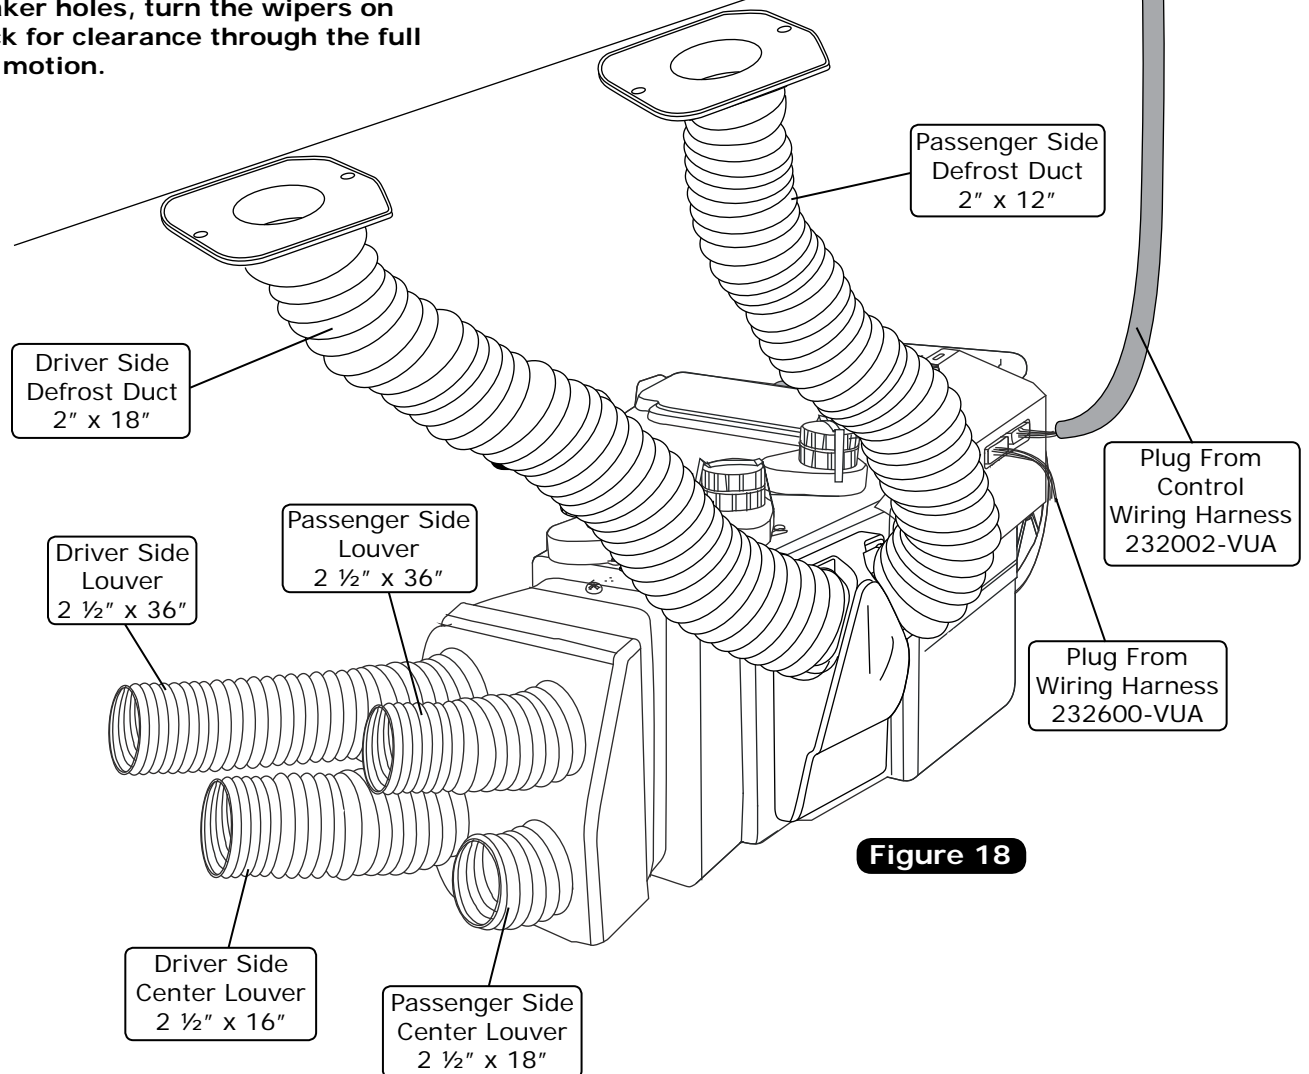

Figure 18
1. Install duct hoses as shown in Figure 18, Page 19.